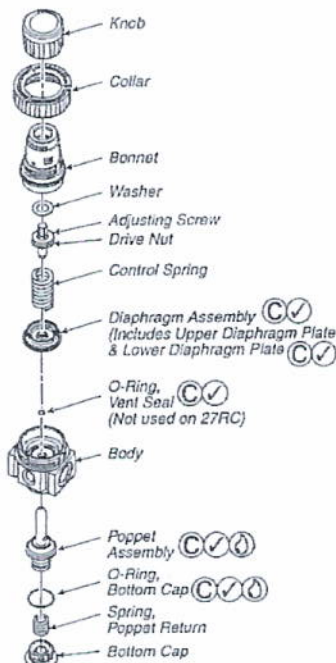

Figure 1: Economy & Precision
A. Use the following procedure to service Economy, Precision, Compact and Standard units, see Figures 1 & 2: